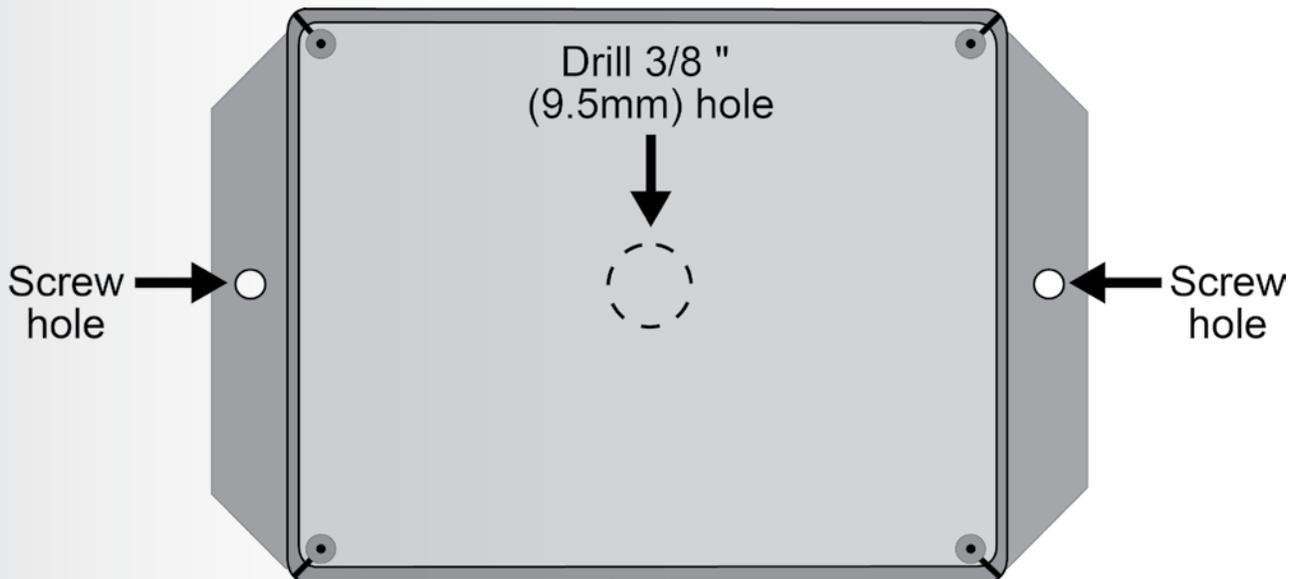

Figure 10. Mounting the Remote Display Unit
6. Replace the Console on the bracket, so it slants in the direction opposite displayed in Figure 10.